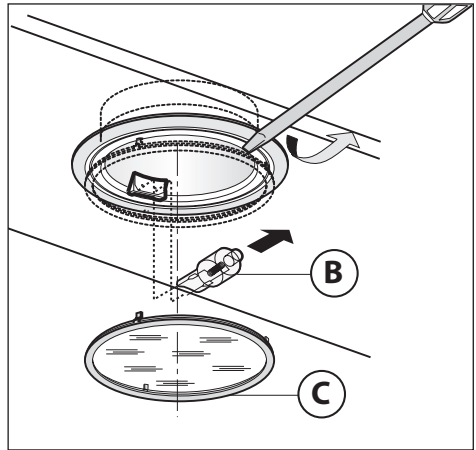

Fig.17
• Replacing halogen light bulbs (Fig.17):